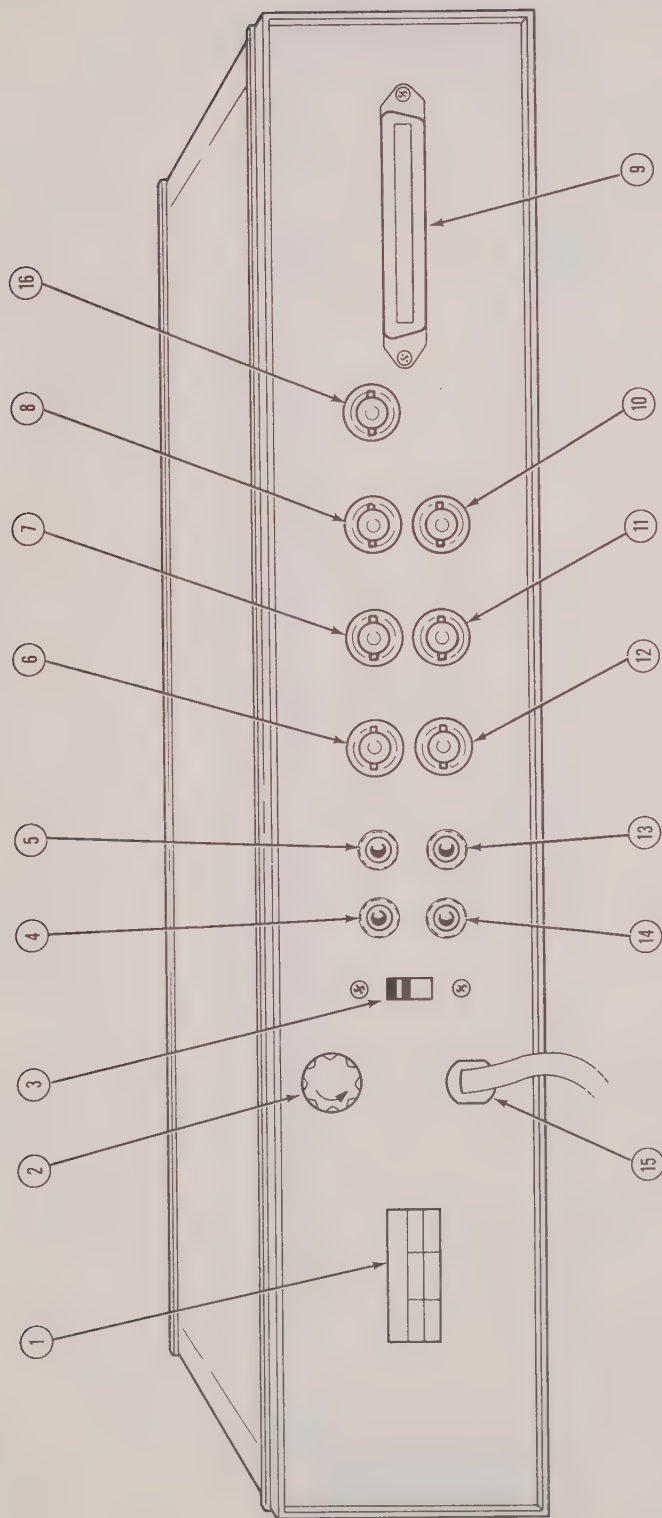

FIGURE 4.2.1
4.2.0 REAR PANEL FAMILIARITY (Refer figure 4.2.1)